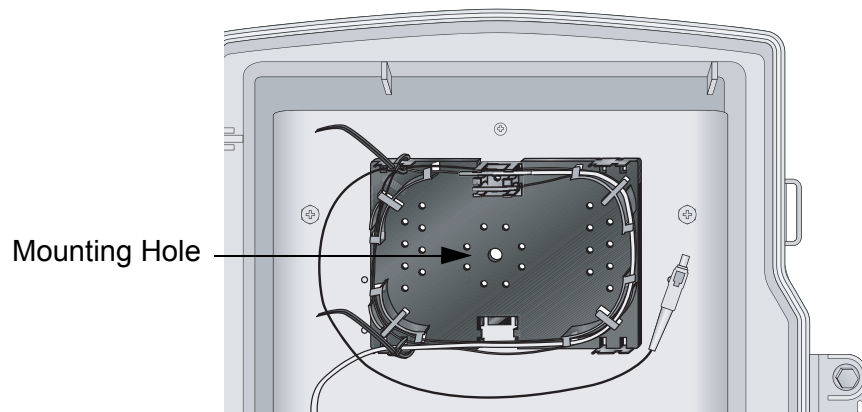

Figure 38. Mounting the Plastic Splice Tray on the Gateway
- For a plastic splice tray, position the splice tray so that the center hole aligns with the standoff, as shown in Figure 38, and mount the tray to the gateway with one short pan head machine screw from the accessory kit.